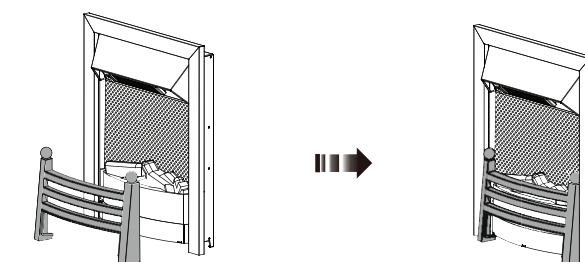

Fig.10
4. Place the fret in front of the appliance (Fig.10)